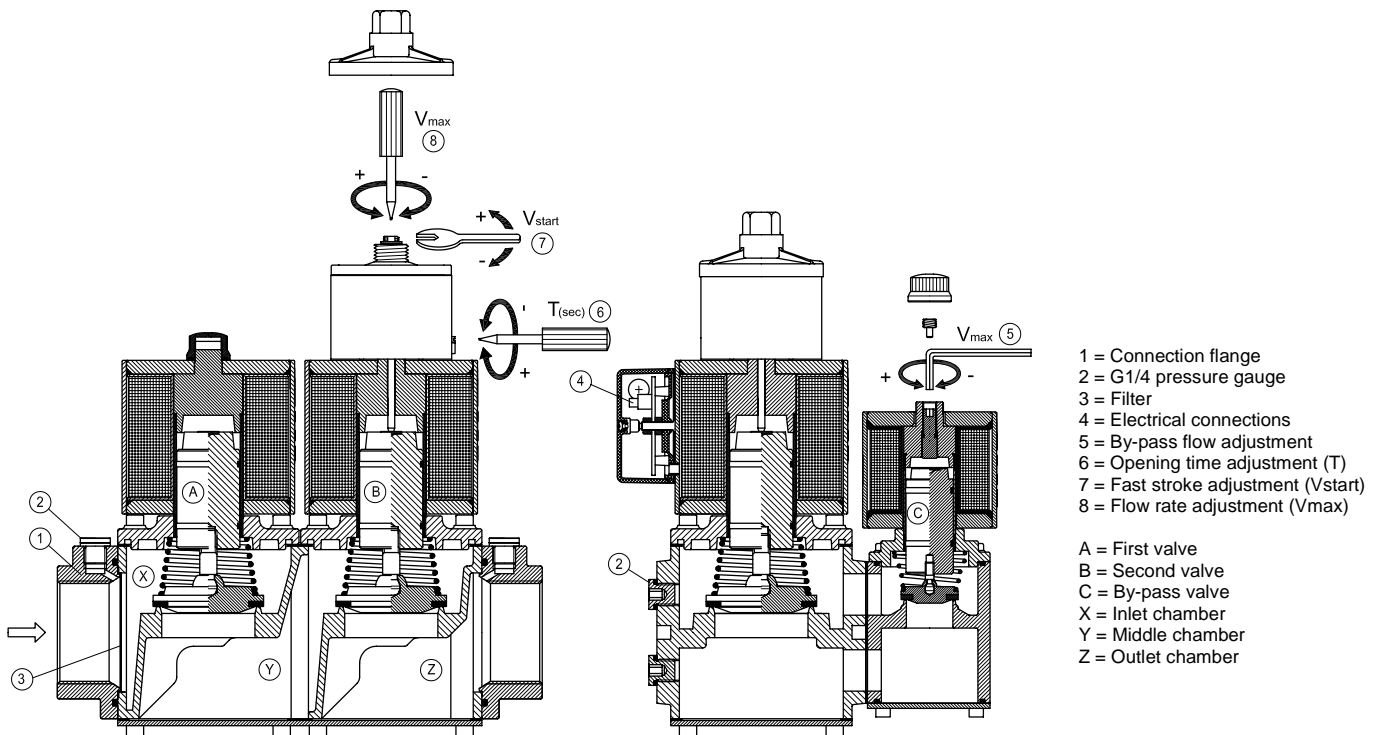

Fig. 8
- Check the O-ring (12) on the top of stem and, if it's necessary, replace it.
- Using an Allen key, remove the screws (10) on the upper flange (9), in cross way. The gas in the valve will come out during this step.
- Clean the internal side of the stem (11) with a clean cloth and compressed air.
- Remove the spring (7) and blow it with compressed air. Check the spring is corrosion free. Take attention to the assembly direction of the spring.
- Check the wear conditions of the sliding rings (6) and, if it's necessary, replace them.
- Check the conditions of the sealing gasket (4). If gasket is deteriorated, replace it with a new one.
- Remove the filter located in the inlet flange (fig. 8) and blow it with compressed air.